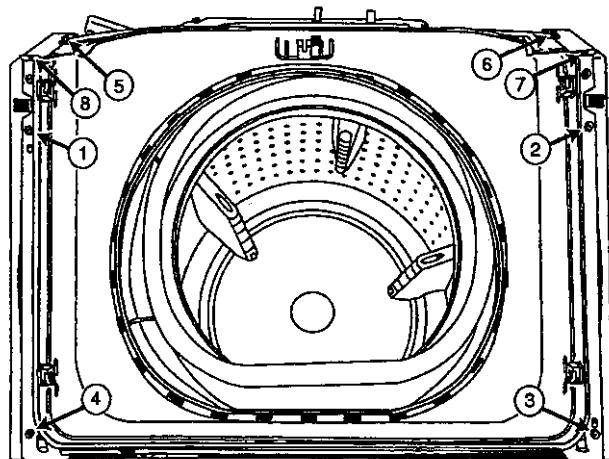

Figure 5-11
6. Remove eight hex-head screws around the front shroud assembly (Figure 5-11).
7. Removal and replacement of the screws in the following order, as illustrated, will aid in the removal and reinstallation of the assembly to the cabinet. Failure to do so will hinder removal and replacement of the shroud onto the cabinet (*Figure 5-11*).